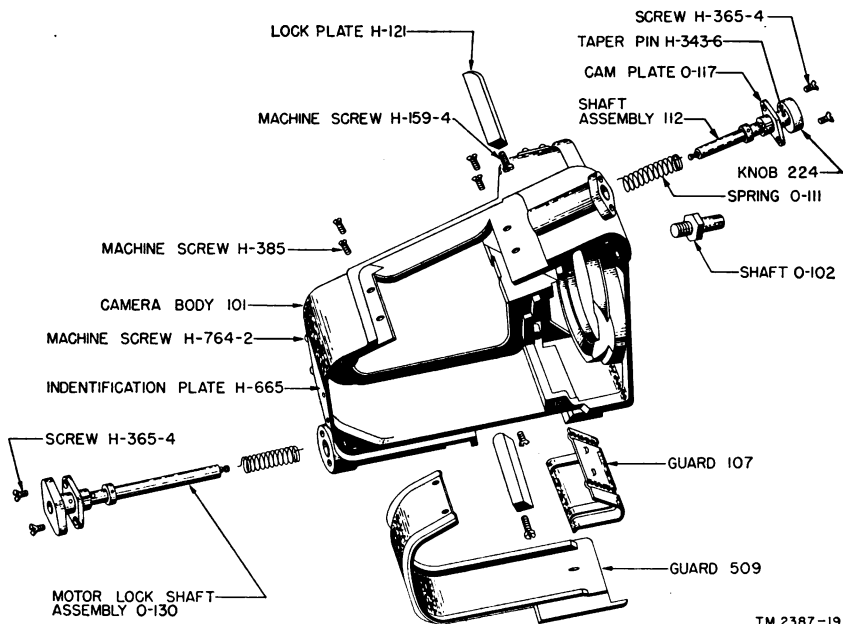

Figure 20, Camera body, exploded view.
h. GIB LOCKS AND FILM GUARDS (fig. 20). Each movable gib (lock plate) is held to the shaft with a single screw H159-4. After removing this screw, remove the screws which hold the spring